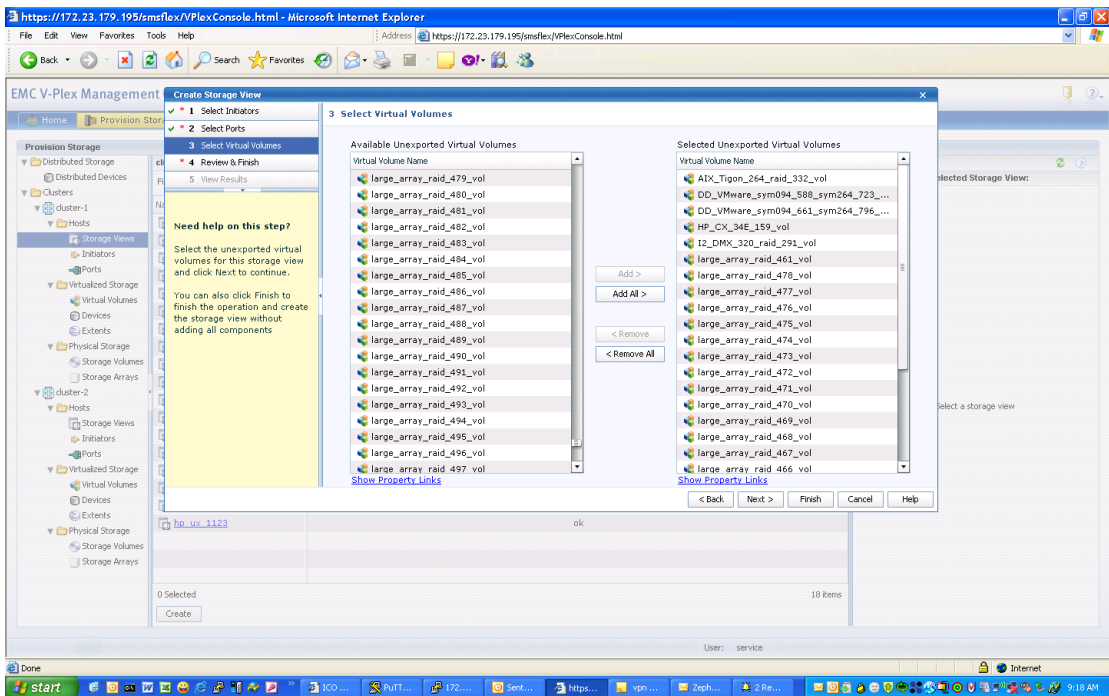

Figure 37 Add virtual volumes to storage view
4. Adding virtual volumes to the storage view, as shown in Figure 37.